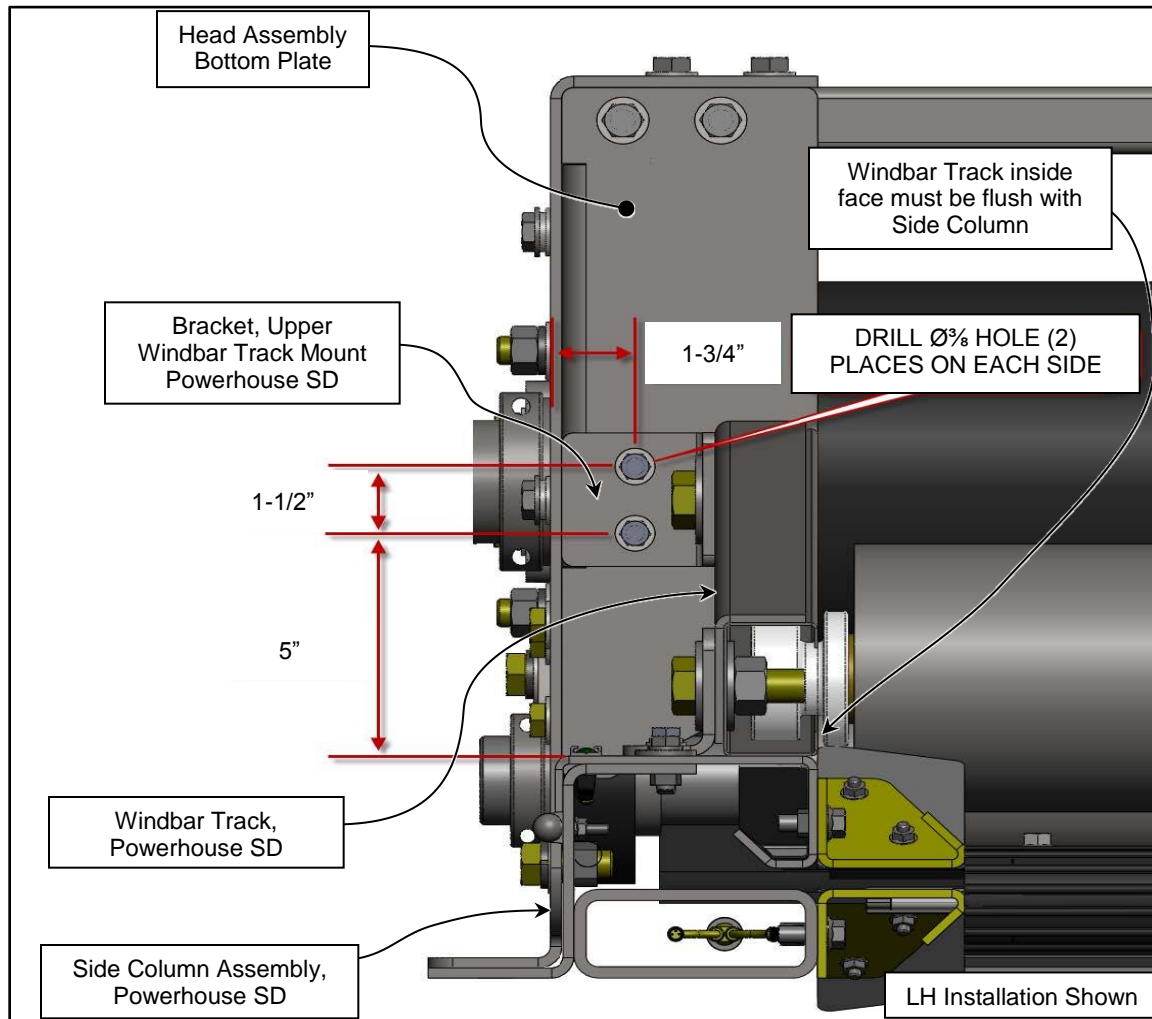

Figure 45
2. Mark the locations for the (4) $\text{Ø}\frac{3}{8}$ " holes required in the Head Assembly Bottom Plates for the Upper Windbar Track Mounting Bracket as shown when necessary (retrofit installations). (See Figures 45 & 46)
The track's inside face/edge must be mounted flush with the inside edge of the Side Column. Screw the bolts into the nuts so full thread engagement is achieved. Do not tighten the brackets in place yet. They will need adjustment later. (See Figures 45 and 47)